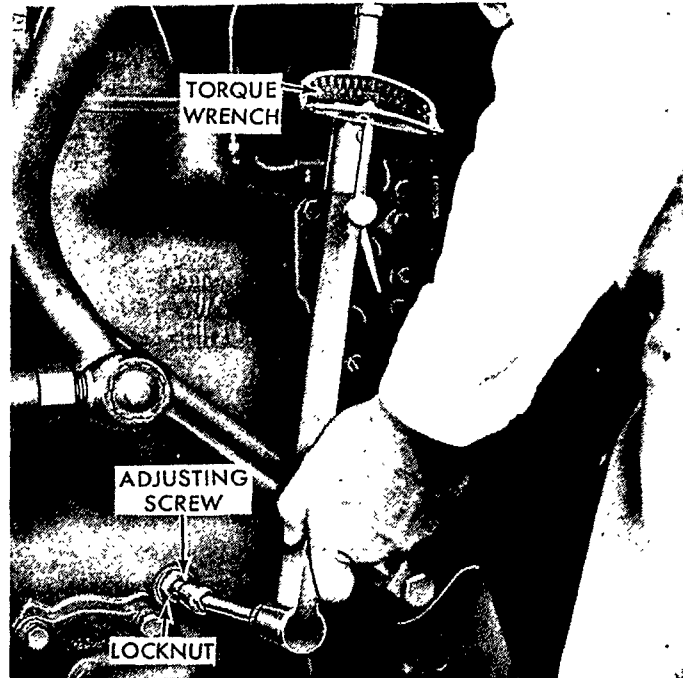

Figure 24
4. Adjust Band 2 and Band 3. Refer to the chart and select the correct released gear ratio for the band involved. Tighten the adjusting screw to the torque specified and back the screw off the proper number of turns. Refer to Figure 24.